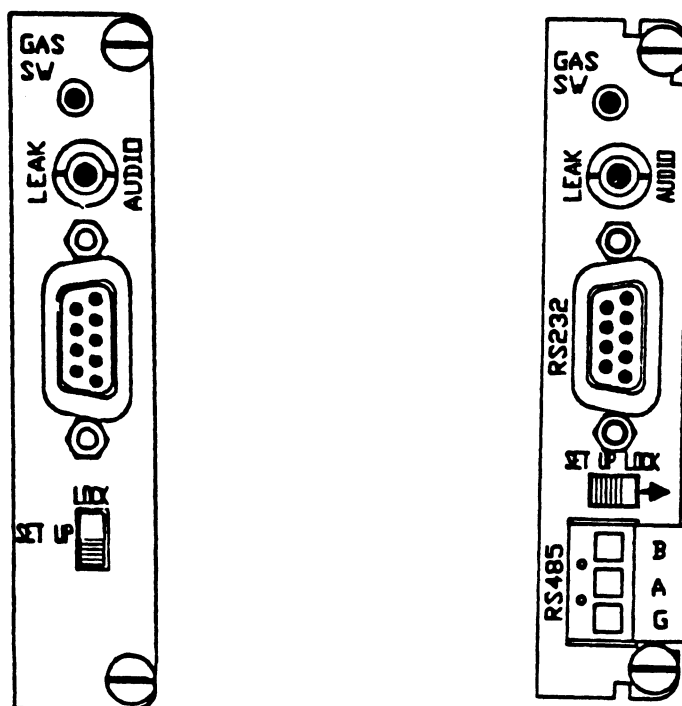

Fig. 3.6 - Rear Panel of the Communications Module
COMMUNICATIONS MODULE - The rear panel of the module is shown in Fig. 3.6. It features a DE9S (female) connector for the RS232 or RS485 interface cable. A SETUP lock switch is used to permit or to lock out the capability to reset or reassign relays using the SETUP function. Two (2) phone jacks are also shown. The larger one (3.5 mm) is labeled LEAK AUDIO and is used to provide an audible signal whose pitch (frequency) is a function of the instantaneous pressure. The smaller one (2.5 mm) is labeled GAS SW and is used to remotely switch the display to the "alternative gas" (See Section 401). See Figure 9.2 for RS485 termination. An alternate function provided by the smaller phone jack is to accept an enable 24 volt signal that would prevent operation of ion type gauges if not present.